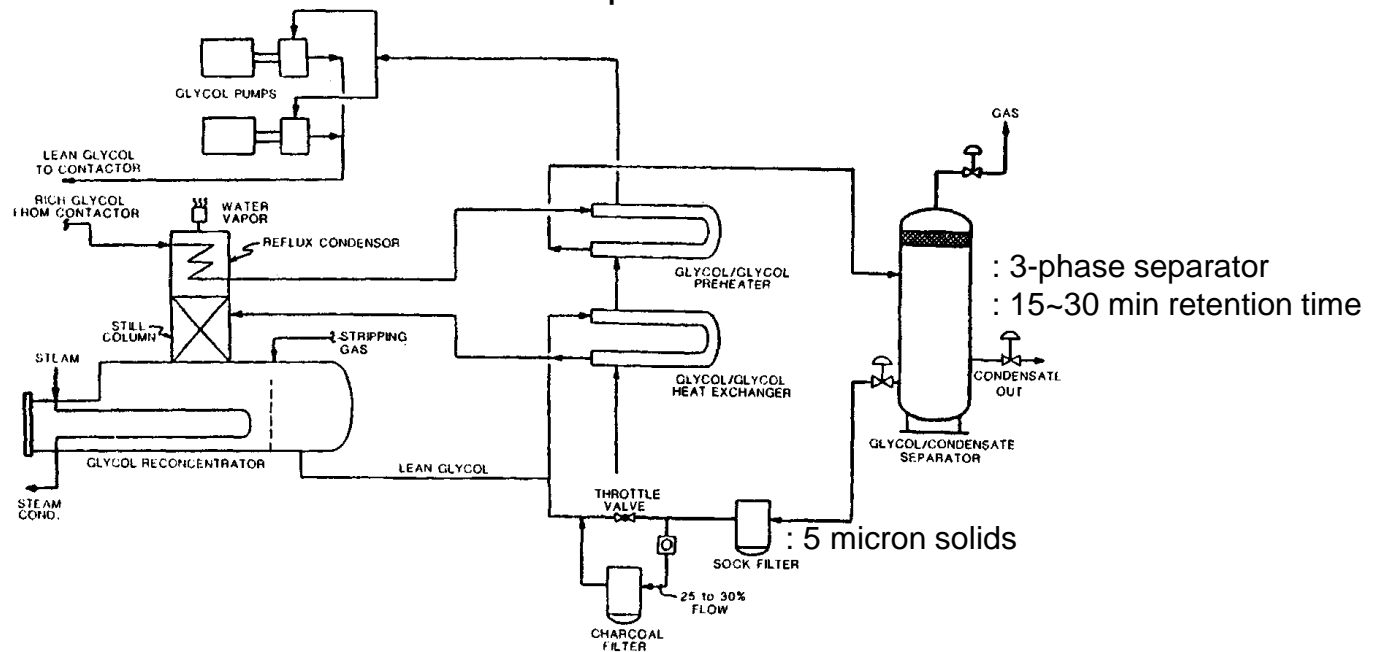

Figure 8-6. Glycol reconcentration system.
- The glycol reconcentration system is shown in Figure 8-6.